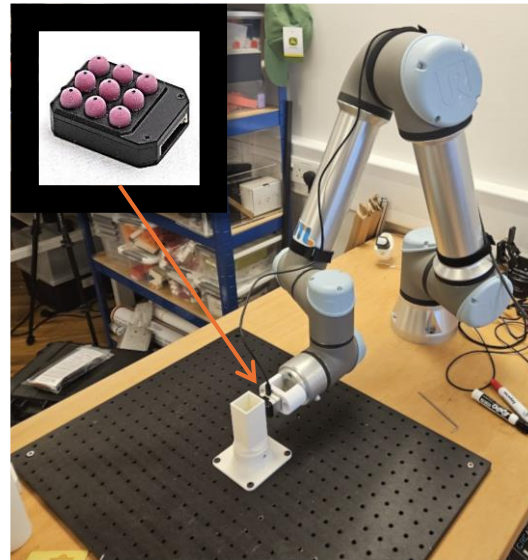
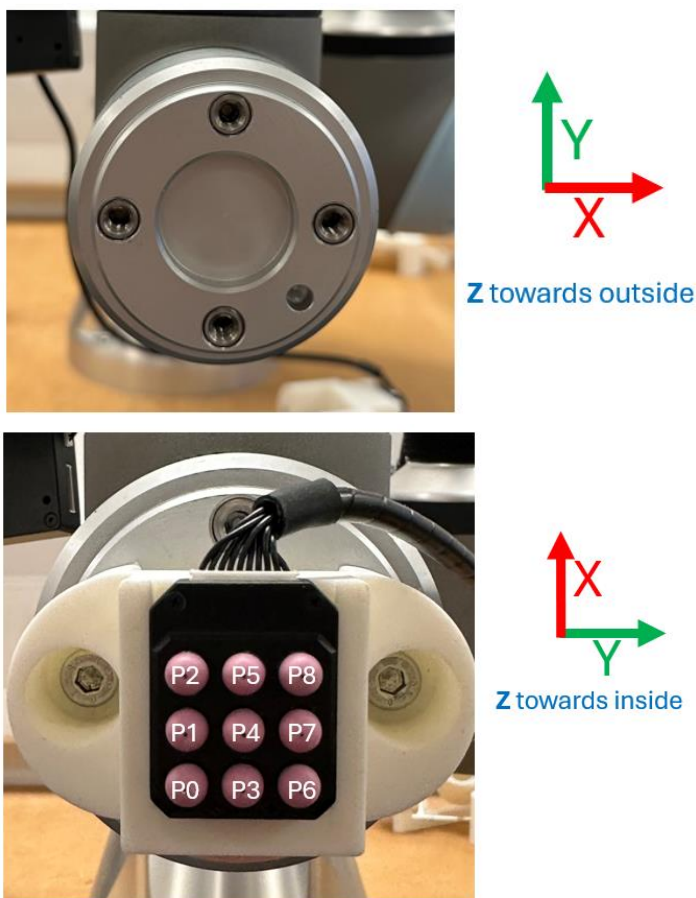

Figure 1: The experiment setup consists of a UR5e robot arm equipped with a Contactile sensor (inset). The test object is fixed in the workspace.
Figure 3: Force axis conventions
For the experiments, a UR5e robot was equipped with a 'Contactile' tactile sensor (Figure 1). The robot also includes a 6D force/torque sensor in the wrist. The Contactile sensor consists of 9 rubber papillae, each of which uses internal optical techniques to measure 3D vectors of force and displacement
3. The Contactile tactile sensor is composed of 9 individual domed sensors called papillae (shown in Figure 1 and Figure 3). Right now, we're just going to look at the data from the middle papillae (P4).
**sensor\_matrices\_force** – there are 9 papillae, each with an [1x3] force vector. These are arranged in the sequence given in Fig 3 to give 27 (9x3) variables per row.